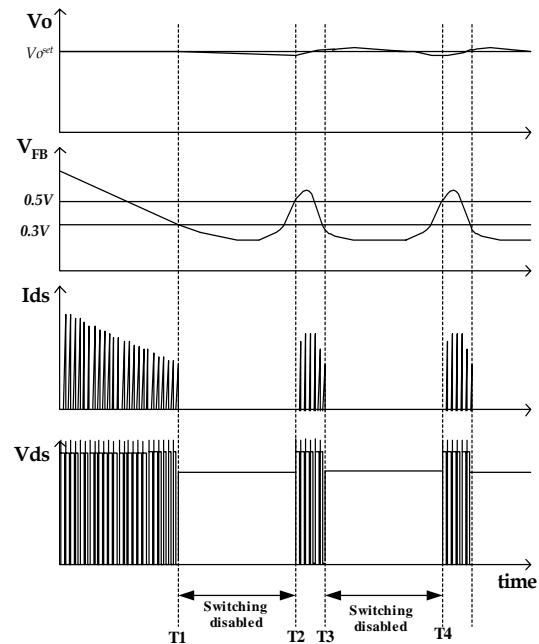

Figure 22. Waveforms of Burst Operation
**6. Burst Operation:** To minimize power dissipation in standby mode, the FSCM0565R enters into burst mode operation at light load condition. As the load decreases, the feedback voltage decreases. As shown in Figure 22, the device automatically enters into burst mode when the feedback voltage drops below VBL (300mV). At this point switching stops and the output voltages start to drop at a rate dependent on standby current load. This causes the feedback